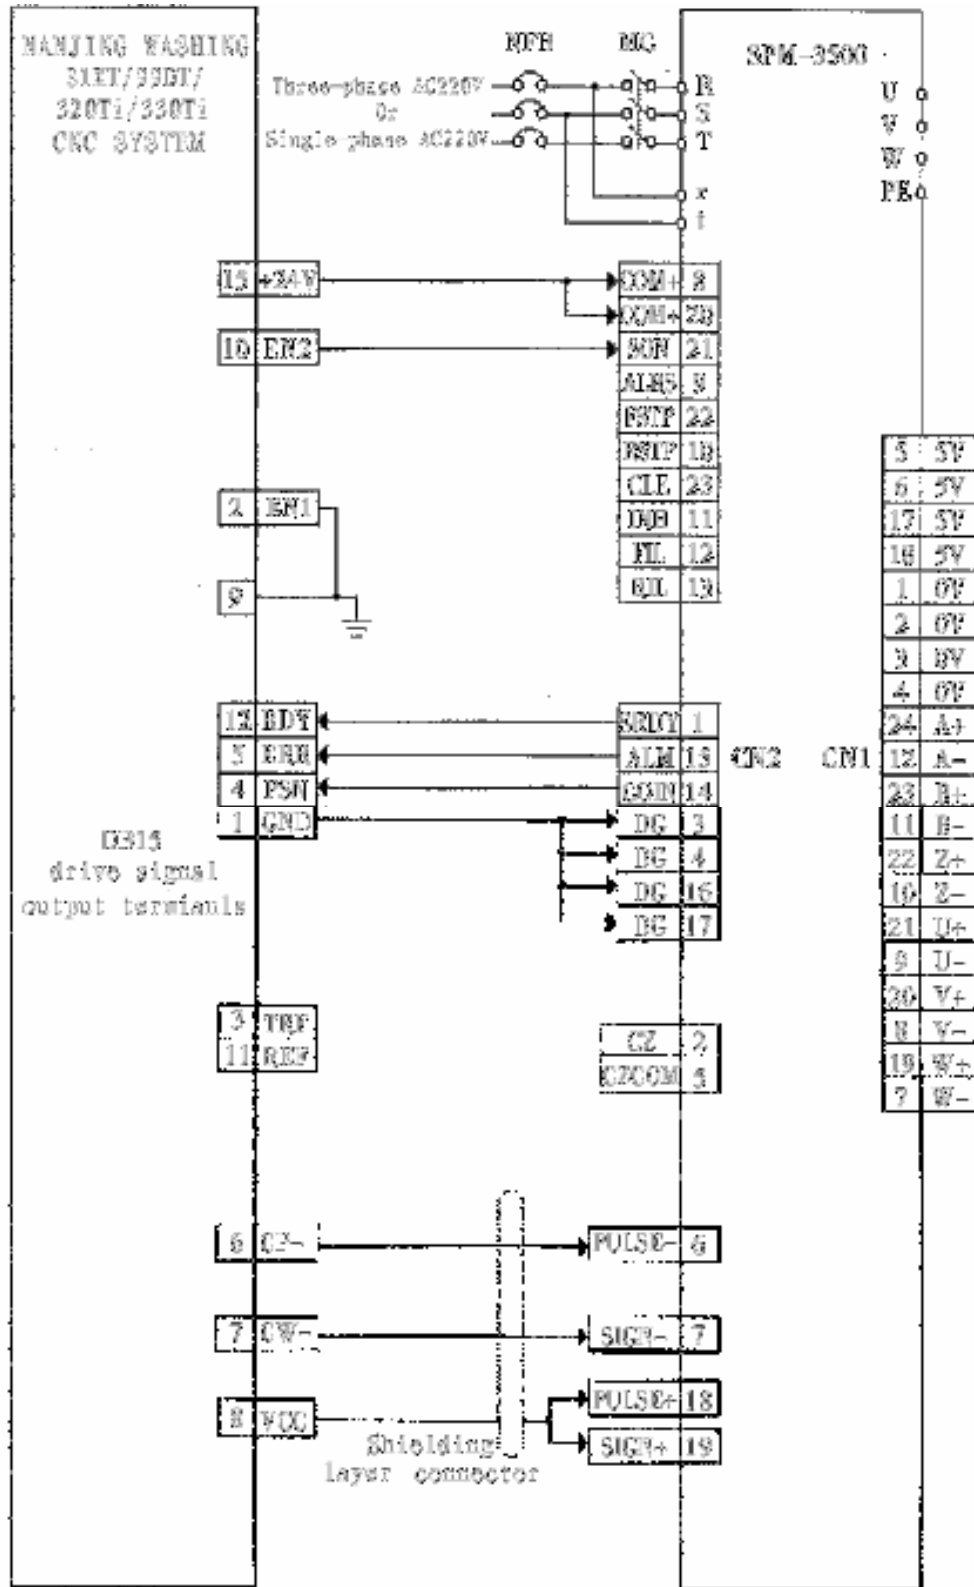

Fig5.1 The standard wiring for position control mode between the driver and our company's 31XT/99DT/320Ti/330Ti CNC system
- 1) Fig 5.1 shows: The standard wiring for position control mode between the driver and our company's 31XT/99DT/320Ti/330Ti CNC system;